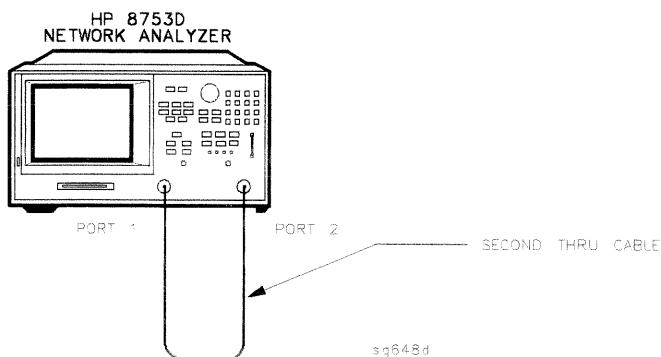

Figure 3-10. Connections for the Second Thru Cable
23. When the analyzer displays CONNECT PORT 1 TO PORT 2, make the connections of the second thru cable (of which you have determined its insertion loss) as shown in Figure 3-10.